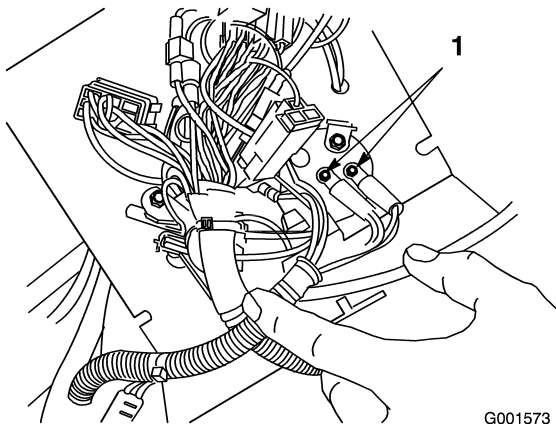

Figure 3
3. Lift up the control panel and find the terminals on the back side of the volt meter (Figure 3) located on the underside of the panel.